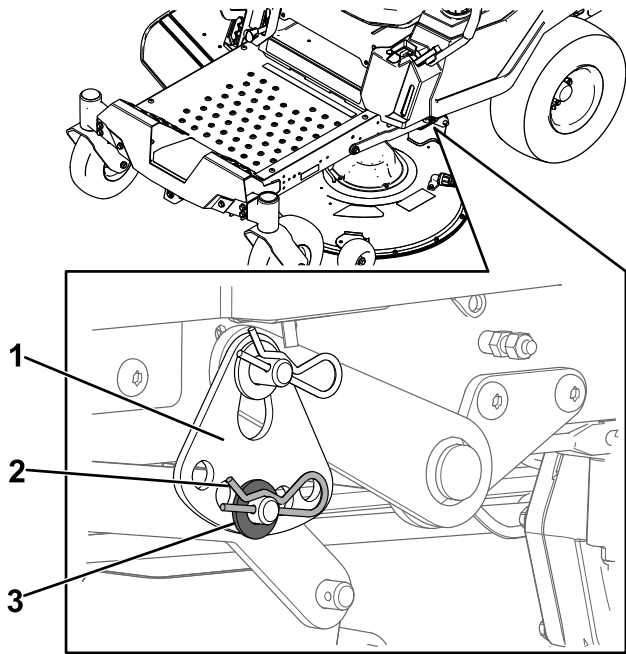

**Figure 60**
4. Place 2 blocks, each having a thickness of 6.6 cm (2-5/8 inches), under each side of the front edge of the deck but not under the anti-scalp roller brackets (Figure 60).
5. Place 2 blocks, each having a thickness of 7.3 cm (2-7/8 inches), under the rear edge of the cutting deck skirt, 1 on each side of the cutting deck (Figure 60).